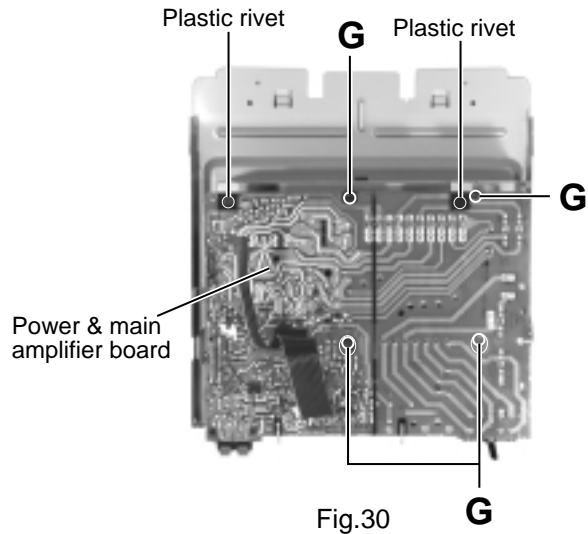

Fig.30
■ **Removing the power & main amplifier board (See Fig.30 and 31)**